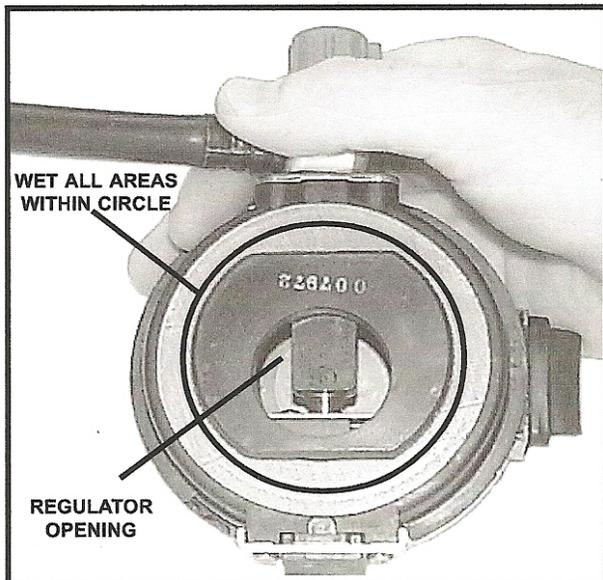

FIGURE 1
3. Inspect the inside of the regulator assembly through the regulator opening (see Figure 1). If excessive dirt or soil is present, forward regulator assembly to SCOTT trained authorized personnel for thorough cleaning.
4. Depress the donning/air saver switch, close the purge knob by turning fully clockwise and spray a minimum of 6 full pumps of SCOTT Multi-Wash Mini into the regulator opening. Make sure to also wet the immediate area around the opening (see FIGURE 1). Swirl to completely cover internal components. Turn regulator opening face down and shake excess liquid out. ALLOW FOR 10 MINUTES OF CONTACT TIME TO DISINFECT PRIOR TO RINSING.